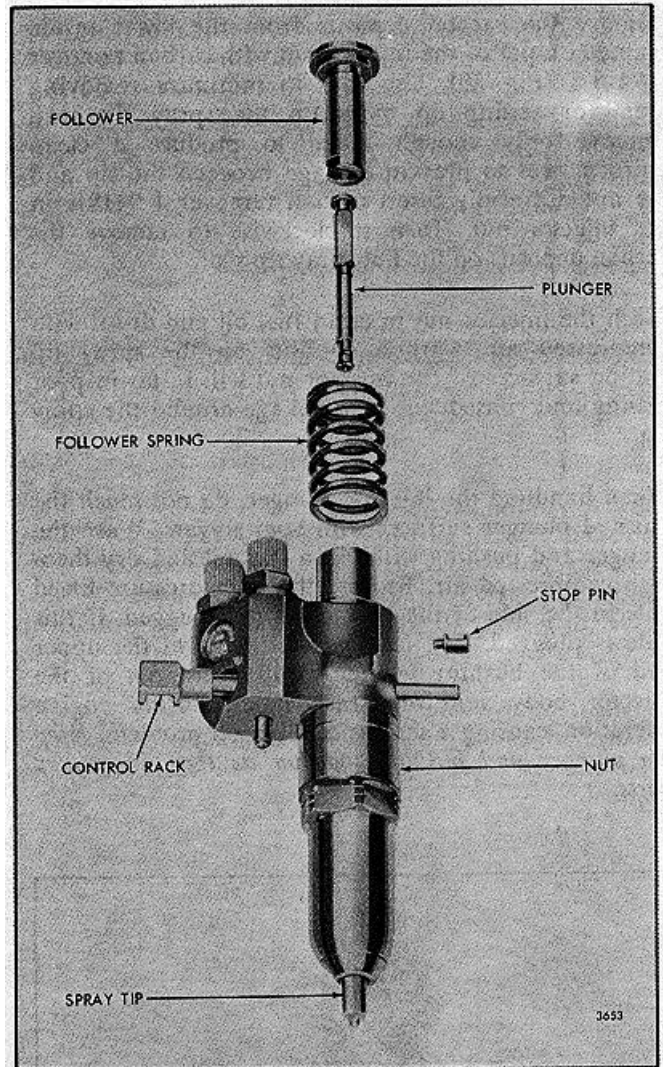

FIG. 37 Injector Plunger, Follower and Relative Location of Parts
1. Refer to Fig. 37 and slide the head of the plunger into the follower.